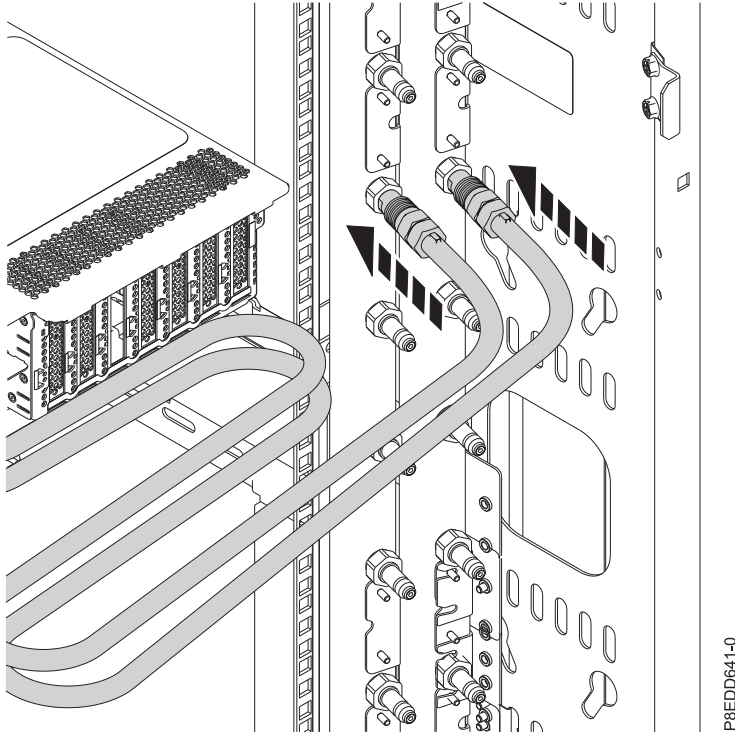

Figure 214. Reconnecting the water hoses
5. Reconnect the water hoses at the rear of the rack, as shown in Figure 214 on page 187.